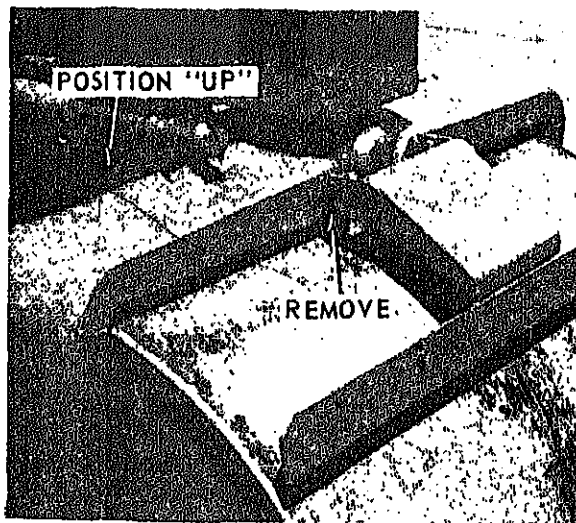

FIGURE 9-97.
a. Remove front scraper assembly in position guide roll rear scraper assembly in position (see figure 9-97).